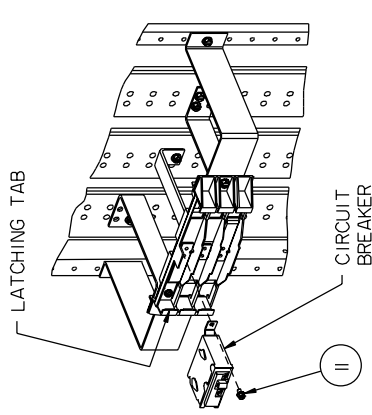

Figure 7
8. Reference figs. 7 and 8 - Installing a BL/BQD Circuit Breaker. Position a BL or BQD type breaker so that the notch in the breaker's shell engages the uppermost latching tab on the left side of the Top Barrier. Insert a 10-24 X 3/32 screw (item 11) into the 0.20" diameter hole in the metal contact of the circuit breaker and rotate the breaker to insert the 10-24 X 3/32 screw into the hole in the Branch Connector. This step can be repeated or mirrored as additional circuit breakers. Torque all hardware as specified on the rear of the deadfront.